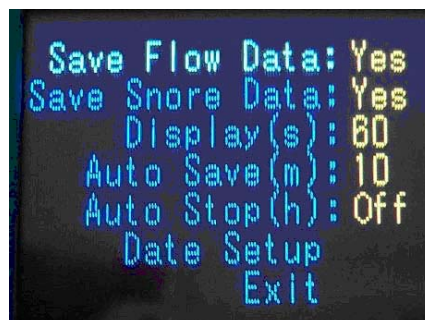

Figure1-7 Setup
3. **Setup** allows changing some of the recording parameters, see Figure 1-7. For example, user